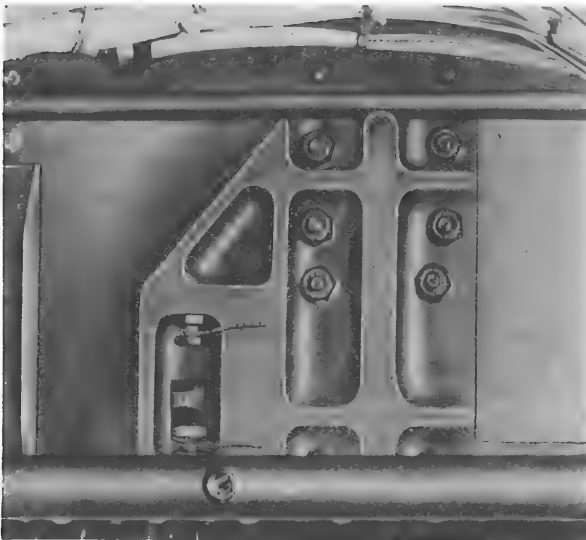

Figure 7-30. Collective Pitch Control Stops
d. Screw all secondary stops all way in to give full travel to control sticks. (See figures 7-30, 7-31, and 7-32.)
4. Unlock collective pitch control, move it to high pitch position until power piston in collective pitch auxiliary servo unit bottoms, and lock collective pitch control in place. Check at main rotor blade attachment lugs with a protractor, Guardian Electric Mfg. Co. part No. 36-D-2844, or rigging tool, part No. S1670-10564-3, for a high collective pitch control reading of $+20 \pm 1/2$ degrees with blade control rod assembly directly over left lateral main rotor servo unit. Set both high pitch stops (figure 7-30) in cabin for reading with a 0.010-inch clearance and secure with lock wire.
y. With collective pitch stick in full low pitch position, auxiliary servo in manual, and collective power piston bottomed against its internal stop in auxiliary servo, set low pitch mechanical stops (figure 7-30) to have a 0.090 to 0.100-inch clearance.